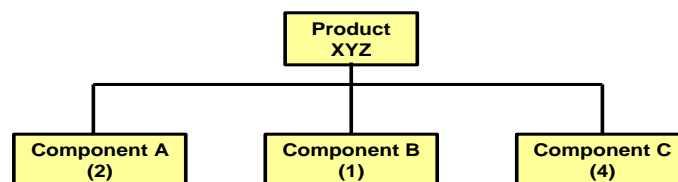

Figure Q1b: Bill of Materials for product XYZ
- b) **Figure Q1b** shows the bill of materials for product XYZ and the required number of each part is shown in brackets. Standard times are given in **Table Q1b**. Perform a rough cut capacity check for the Machine Shop and Assembly. Assume that 2000 of XYZ need to be completed in the 13 week period. All employees work a 40 hour week. Efficiency rates are 0.98 for the Machine Shop and 0.96 for Assembly. The company aims for a utilization rate of 0.90. The Machine Shop has 8 employees and Assembly has 1 employee.